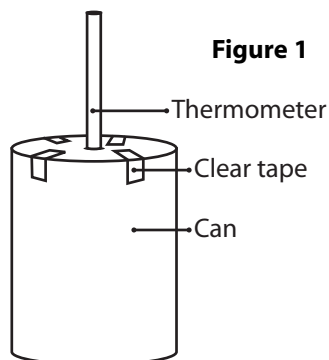

Figure 1
- F. Have students cut out cardboard lids to fit the cans by tracing the circumference of the cans. A small puncture should be made in the center of the lid to hold the thermometer. This hole needs to be smaller than the diameter of the thermometer so that it can hold it firmly in place. Attach the lid to each can using clear tape. See Figure 1.